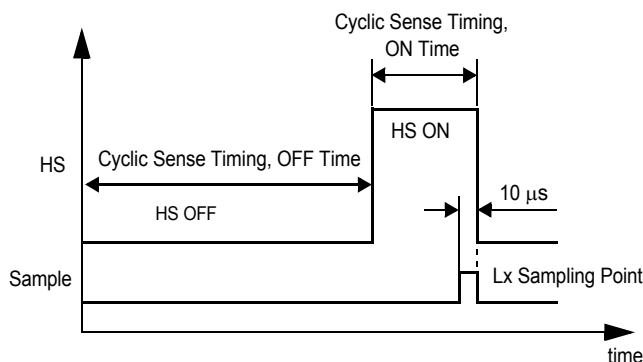

Figure 30. HS Operation When Cyclic Sense Is Selected
- TIM2—Selects an appropriate timing for sensing the wake-up circuitry or cyclically supplying devices by switching the HS on or off. TIM2 is selected when bit D3 is 1 (Table 33). Figure 30, page 54, describes HS operation when cyclic sense is selected. Cyclic sense timing characteristics are described in Table 35, page 54.